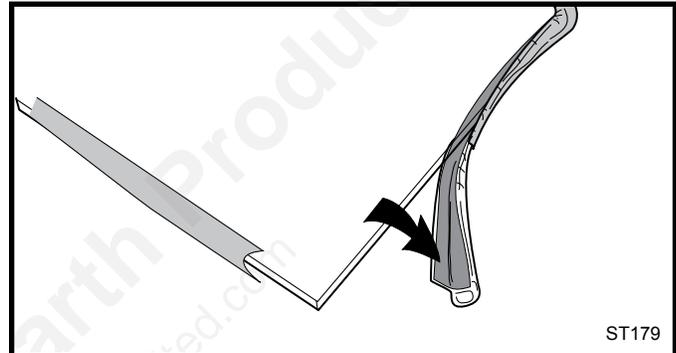

Fig. 87 Wrap the gasket material around the outside edge of the glass.
3. Starting on a long edge, remove about 6" of the protective paper strip and apply the flat adhesive face of the gasket around the outside-facing edge of the panel. Continue around the panel, applying about 6" at a time and being careful to not stretch the material. Do not overlap the gasket ends. (Fig. 87)